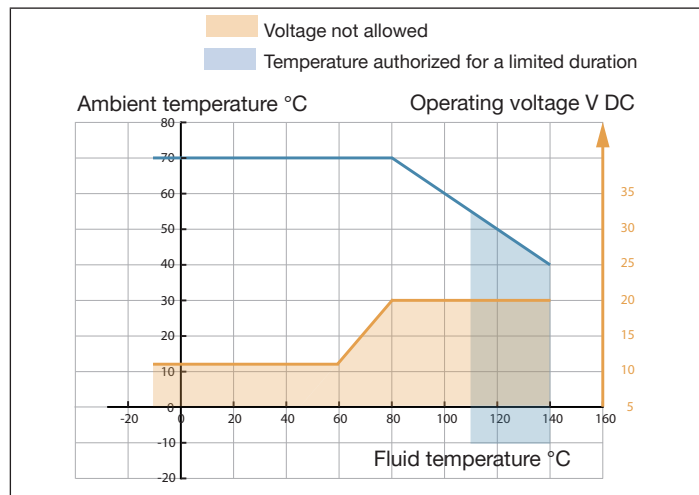

Fig. 15: Minimum supply voltage depending on the ambient temperature and the fluid temperature
- Observe minimum supply voltage, see “Fig. 15”.